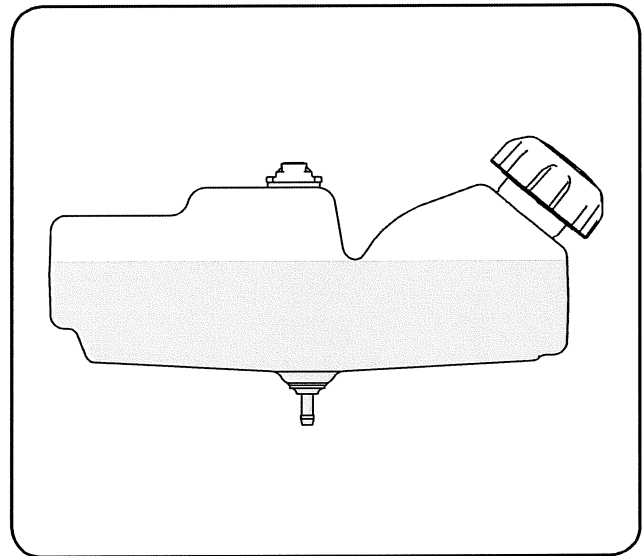

Figure 3-15
**IMPORTANT:** It is important to **NOT** top off your fuel tank when filling with fuel. Leave an expansion area available inside the fuel tank to allow for the fuel to expand and for proper ventilation. Otherwise the unit may not run properly. Fill the tank in accordance with Figure 3-15.